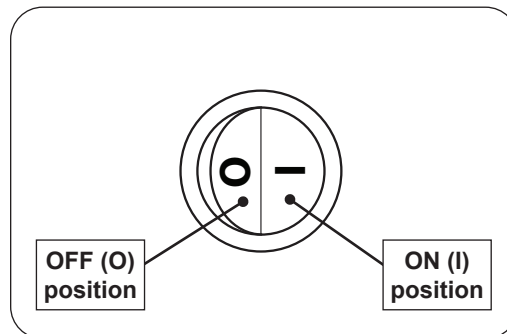

Fig. 21-1 Manual operation
3. Press the ON/OFF switch to the **ON (I)** position (see Fig. 21-1).